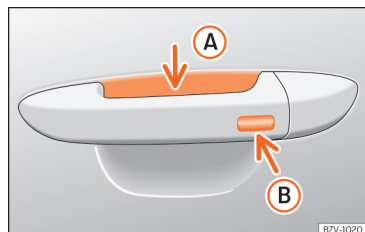

Fig. 50 Driver door handle: sensor surfaces.
»» Fig. 50
- Touch the sensor surface >>> Fig. 50 Ⓑ on the outside of the door handle. All turn signals flash once.
- Within 5 seconds, touch the sensor on the outside of the door handle >>> Fig. 50 Ⓑ once. Do not grip the handle while doing so. This temporarily deactivates the Keyless Access system.
To close all the electric windows and the sunroof using the **comfort function**, keep a finger for a few seconds on the locking sensor surface >>> Fig. 50 Ⓑ of the door handle until the windows and roof have closed.